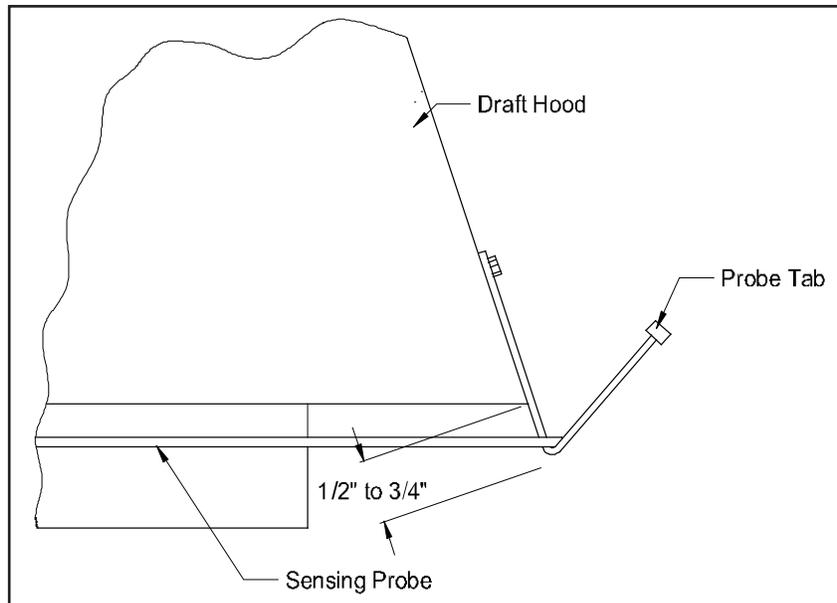

Figure 3
2. Mount the probe tabs around the draft hood, located approximately 120° apart. The bottom of the bent end should be 1/2" to 3/4" away from the bottom edge of the draft hood. (See Figure 3)
3. Carefully uncoil and route the probe around the draft hood. (See Figure 3) Avoid bending the sensing probe, kinks can alter the switch's performance.